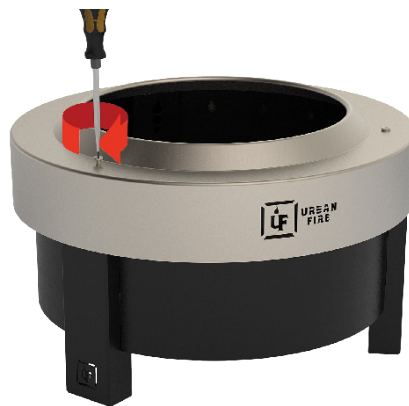

FIGURE 11
Step11: Use the provided bolts (Q) to fasten the Top Ring (T) to each Leg (L & F) using a flat head screwdriver, as shown in Fig. 11